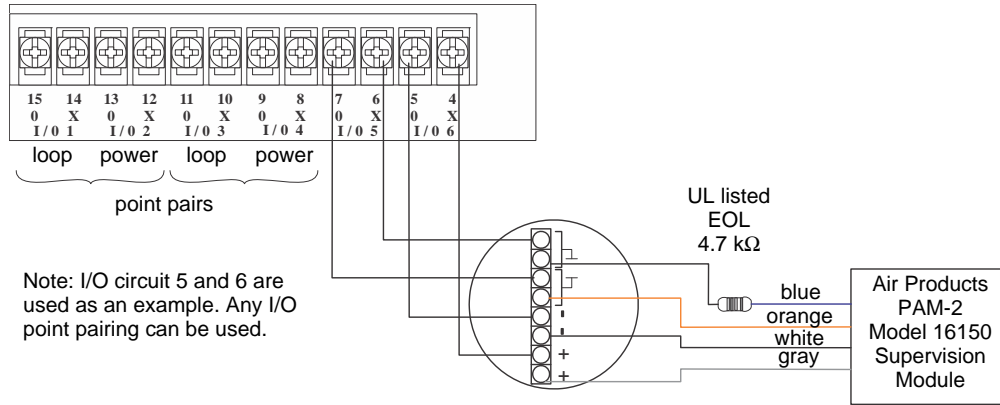
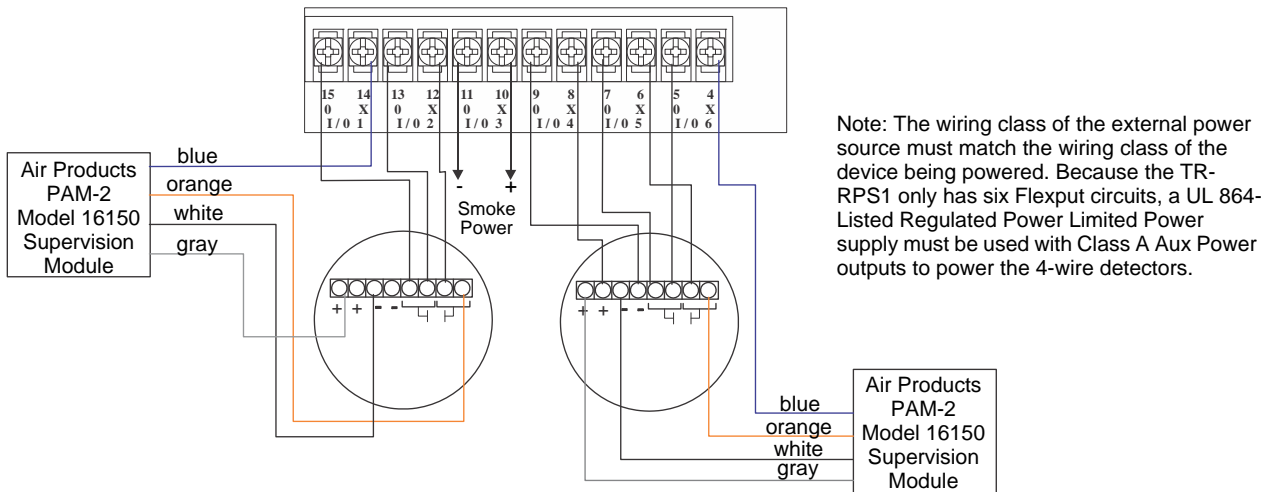

Figure 3.16 Class B 4-Wire Smoke Detector Connections
Figure 3.17 Class A 4-Wire Smoke Detector Connections
Any compatible UL listed two-wire smoke detector can be used with the TR-RPS1 panel. Refer to the *Device Compatibility Document* for a list of compatible devices. Figure 3.16 and Figure 3.17 illustrate how to connect a UL listed four-wire detector to the TR-RPS1 panel.
Figure 3.16 illustrates how to install Class B 4-wire smoke detectors.
2. Each Class B loop input is paired with a unique power source as shown in Figure 3.16.
NOTE: In programming, any point that uses multiple I/O circuits are always referred to as the lowest I/O circuit number used. For example, Figure 3.16 uses both I/O circuit 5 and 6, so in programming it would be referred to as point 5.
Figure 3.17 illustrates how to install Class A 4-wire detectors.
2. Smoke power is supplied to each Class A loop as shown in Figure 3.17.
NOTE: In programming, any point that uses multiple I/O circuits are always referred to as the lowest I/O circuit number used. For example, since Figure 3.17 uses I/O circuits 1, 2, 3 together and 4, 5, 6 together they would be referred to as point 1 and point 4.